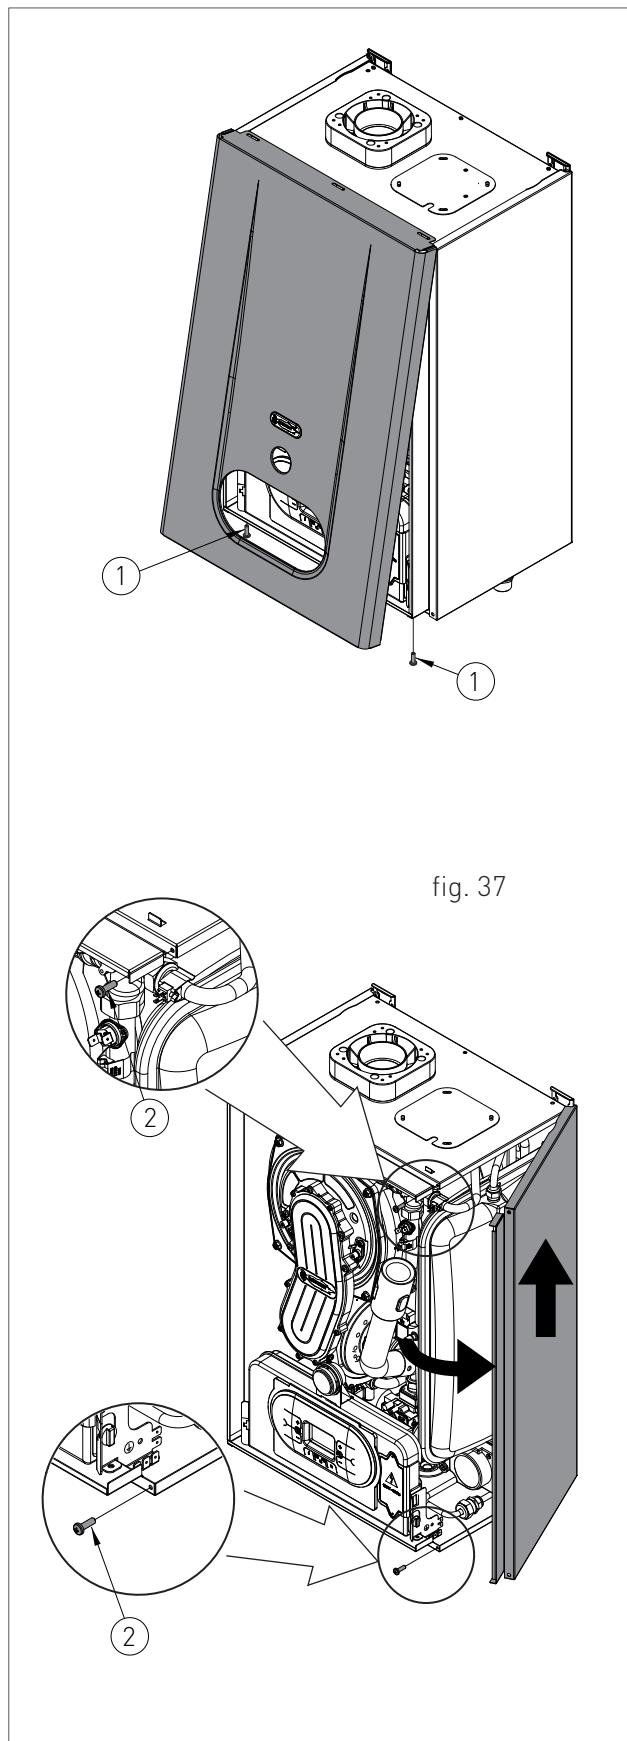

fig. 37
- › remove the fastening screws (1 - fig.37) placed on the lower edge of the front panel;
- › grab the front panel from the bottom and remove it pulling it towards you and then upwards (see fig. 37).
- › remove the fastening screw (2 - fig.37) placed on the front edge of the side panel;
- › grab the bottom of the panel and remove it by moving it sideways and then pulling it upwards (see fig. 37).